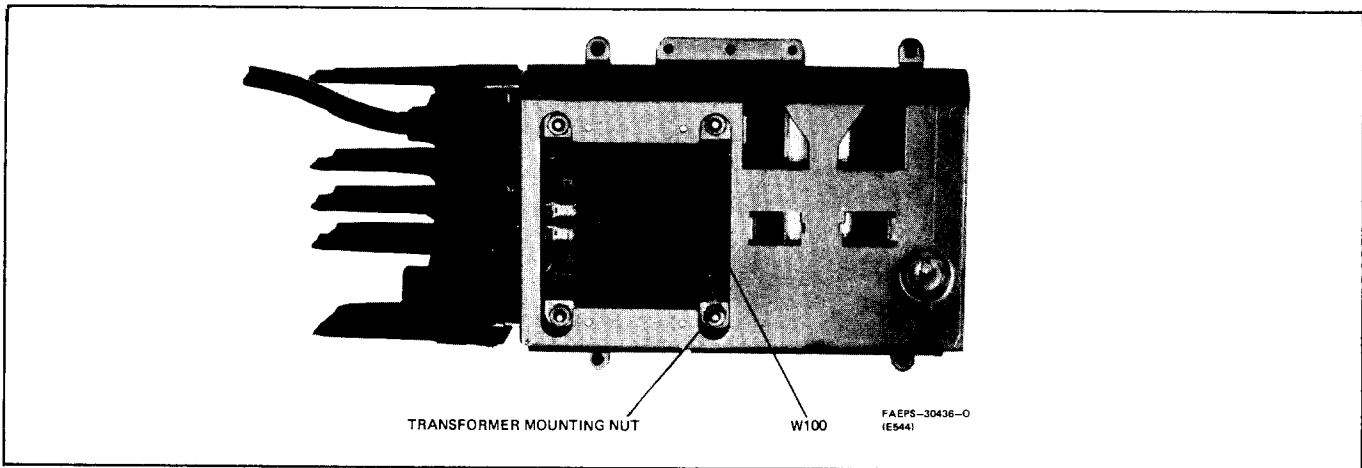

Figure 3. Bottom View of A TPN1155A or TPN1155B Power Supply
- Step 32. Refer to Figure 3. Slip the lug on one end of W100 over the exposed bolt and fasten it in place with the loose nut. Push the free end of W100 between the power transformer and the regulator board.